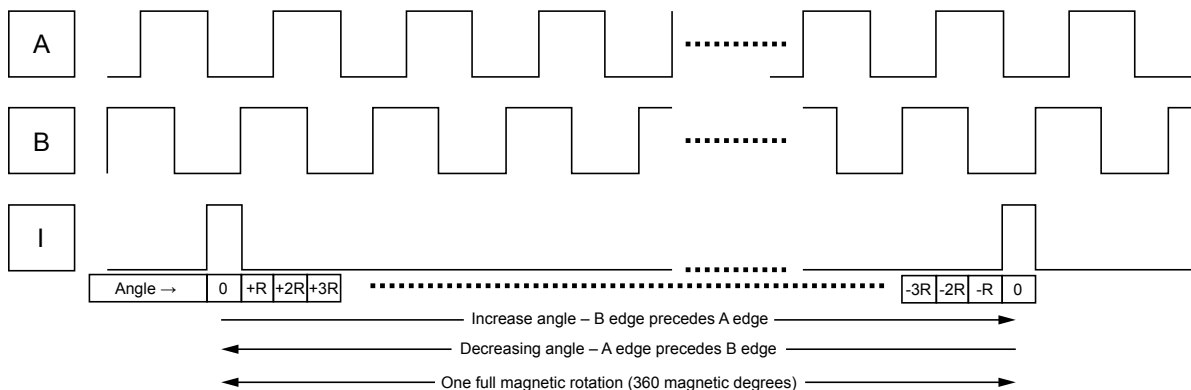

Figure 5: One Full Revolution
The AAS33001 offers an incremental output mode in the form of quadrature A/B and index (I) outputs to emulate an optical or mechanical encoder. The A and B signals toggle with a 50% duty cycle (relative to angular distance, not necessarily time) at a frequency of $2N$ cycles per magnetic revolution, giving a cycle resolution of $(360 / 2^N)$ degrees per cycle. B is offset from A by $1/4$ of the cycle period. The I signal is an index pulse that occurs once per revolution to mark the zero (0) angle position. One revolution is shown in Figure 5.